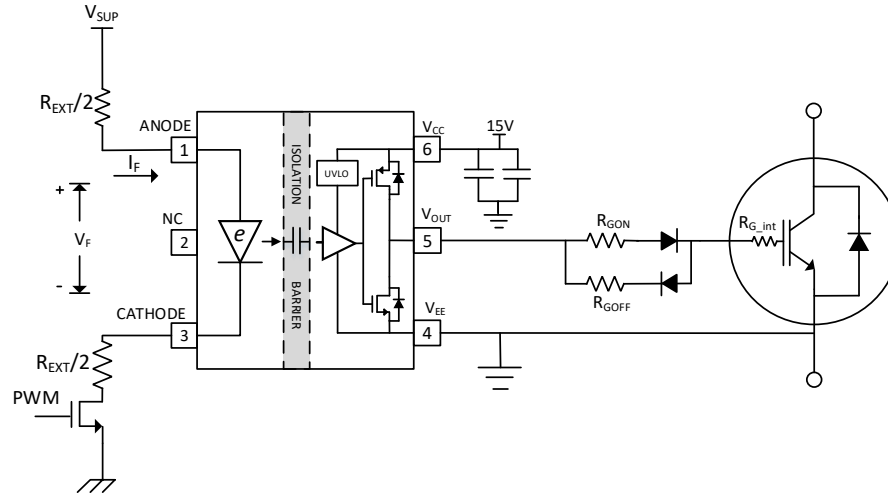
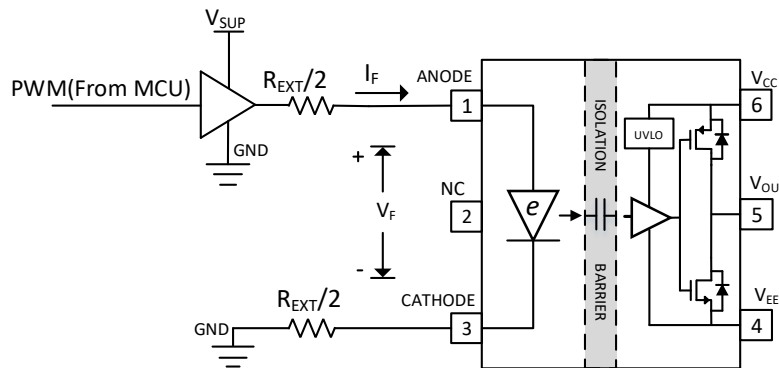
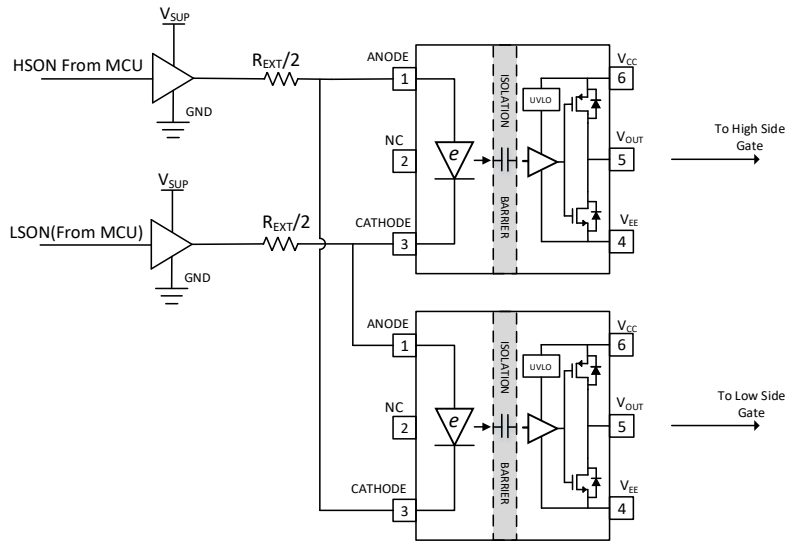

Figure 9.1 NSI6801 typical application circuit with NMOS driving input stage
Figure 9.2 NSI6801 typical application circuit with one buffer driving input stage
Figure 9.3 Interlock Protection using NSI6801
NSI6801 requires 7mA to 16mA bias current that flows into the e-diode for normal operation. The PWM from MCU is not suitable to provide such current directly and external circuit is needed. In Figure 9.1, one NMOS is used with split input resistors. Another input drive method is using one buffer, as shown in Figure 9.2. The details to calculate input drive parameters are in Chapter 9.3.
For applications to drive power transistors in half bridge configuration, two NSI6801 can be used. Interlock protection is possible as shown in Figure 9.3. If the controller has some mistake, leading to negative dead time, the output PWM of NSI6801 is adjusted to avoid power transistor shoot through. The input side reverse breakdown voltage of NSI6801 is greater than 6.5V, which supports interlock protection of 3.3V or 5V PWM signal source.
The recommended forward current range for NSI6801 is 7mA to 16mA. The value of input resistor, buffer supply voltage and buffer internal resistance influence the forward current, as shown in Equation (1). In Figure 9.1, R_{IN1} is the on-resistance of the external NMOS. In Figure 9.2, R_{IN2} is the buffer output impedance in output “High” state. In Figure 9.3, R_{IN3} is the summary of buffer output impedance in “High” and “Low” state.